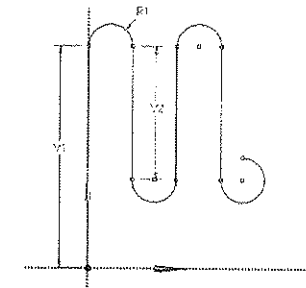

Figure 3-75 Sketch after all the dimensions are placed
4. Place all other dimensions to their respective places, as shown in Figure 3-75.